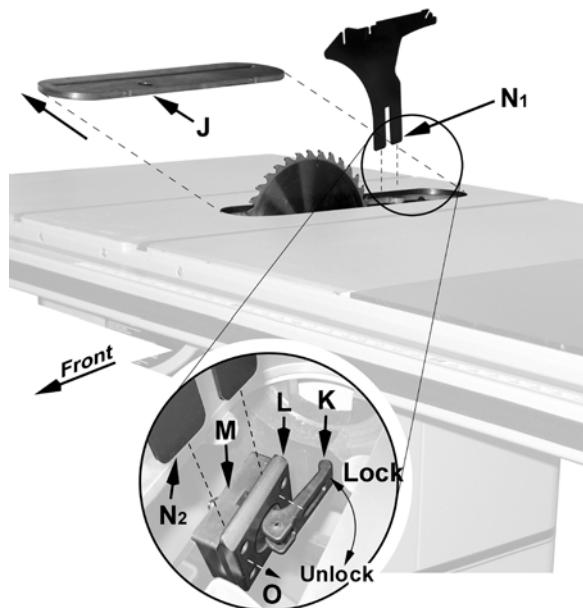

Figure 10
3. Press the *arbor lock* (D) in the direction shown by the arrow to engage it into the slot in the *arbor* (C). At the same time remove the *arbor nut* (loosen with a 27mm wrench if necessary).
4. Remove the *collar* (B).
5. Install the blade, making sure the cutting teeth at the top of the blade point toward the front of the saw. If unsure, refer to Figure 10 for the proper blade orientation.
6. Replace the *collar* (B) and *arbor nut* (A).
7. Engage the *arbor lock* (D) and tighten the nut (A) with a 27mm wrench.
Referring to Figure 10:
2. Remove the table insert (J).
3. Located inside the table and accessible through the insert opening (Figure 10 inset), place the quick-release clamp *lock handle* (K) in the *unlock* position.
4. The *floating clamp block* (L) is spring loaded and will move away (O) from the *fixed block* (M), leaving a gap.
5. Insert the bottom of the *riving knife* (N1, N2) all the way into the gap between the *clamp blocks* (L, M), then lock the handle (K).
6. Replace the *insert* (J) back on the table. The saw blade and riving knife should protrude through the slot in the insert.
The clamping blocks (L, M, Fig. 10) are adjusted at the factory and no further adjustment of the blade guard and riving knife assembly should be necessary. However, **proper alignment is very important**. Before operating the table saw, read the *Riving Knife Adjustment* section (page 18) to verify and follow the adjustment procedure if necessary.